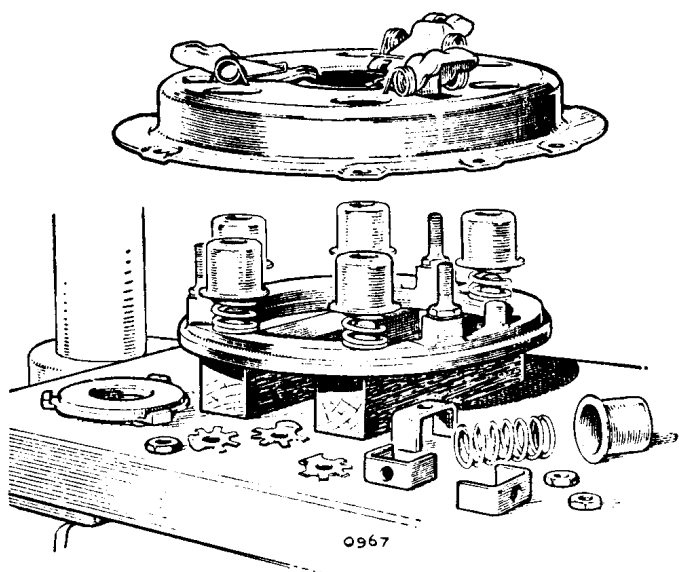

Fig. E.4
- (1) Lay the pressure plate (T) on the wood block in the press and place the springs on it in a vertical position, seating them on the small locating bosses on the pressure plate. Now place the spring cups over their outer ends, as shown in Fig. E.4.
- (2) The levers (N) can then be mounted on the knife-edge fulcrums (O) by slipping the inner ends of the release levers under the retainer springs (M), taking care that the release levers are properly
- (3) The cover can now be laid on top of the assembled parts as shown in Fig. E.4, taking care that the machined portions of the pressure plate lugs are directly underneath the slots formed in the clutch cover.
- (4) Place three blocks of wood to form a bridge, the legs of which should rest on the outer rim of the clutch cover (as used in the dismantling operation). The assembly is then slowly compressed, the pressure plate lugs being guided through the slots formed in the clutch cover. Care must be taken that the thrust springs remain correctly on their seats on the pressure plate.
- (5) Holding the clutch under compression, the bearing plate (S) and tag lock washers (P) are then placed in position on the shoulder studs (Q). The adjusting nut (R) can then be screwed down on the shoulder stud until the nut is flush with the top of the stud.
- (6) The clutch unit may now be removed from the arbor or drill press and the final setting of the release levers carried out by use of the special Service tool (No. 38446) as detailed in Section E.5.
- (7) The release lever plate (K) should then be assembled to the release levers, taking care that the projecting portions engage properly in the slots formed in